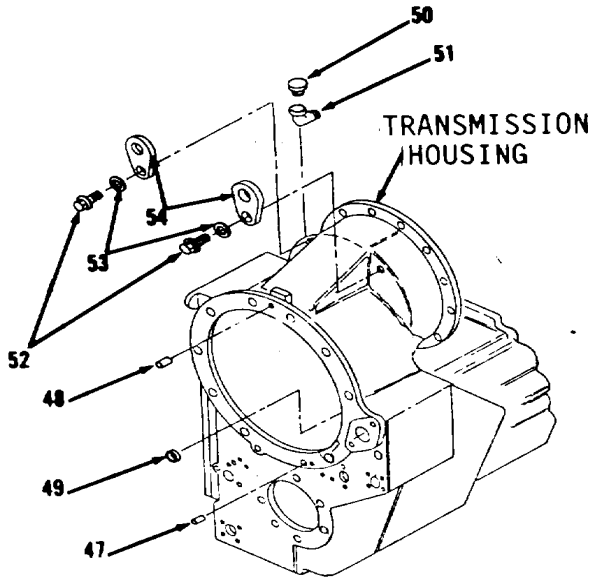

Figure 14-14.
- 50. Remove two dowel pins (47 and 48) and plug (49, Figure 14-14) from transmission housing.
- 51. Remove breather (50) and elbow (51).
- 52. Remove two bolts (52), lock-washers (53) and lifting eyes (54).